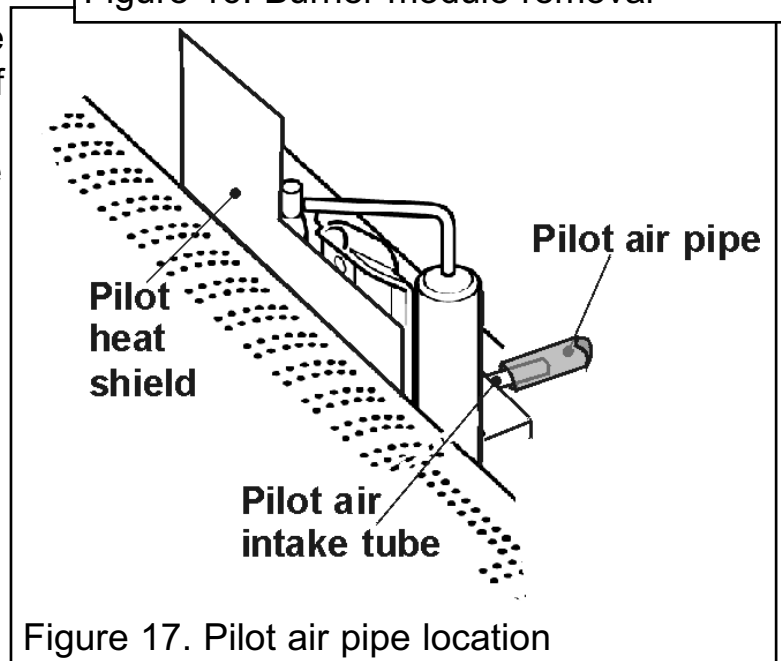

Figure 17. Pilot air pipe location
2. If the pilot is removed, when refitting, make sure that the pilot heat shield is in place between the pilot unit and the rear of the burner and is the correct way round (See figure 17).
3. Check that there is no blockage of the air intake tube at the back of the pilot unit. Make sure that the air intake tube locates fully into the pilot air pipe attached to the back panel (See figure 17).